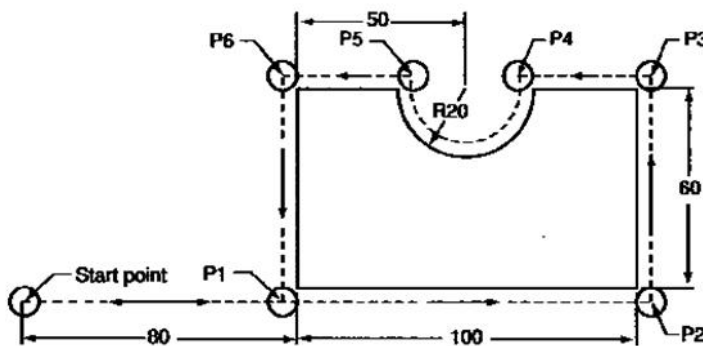

Figure 1
6. Write an APT program to cut the profile shown in figure1. Make suitable assumptions.